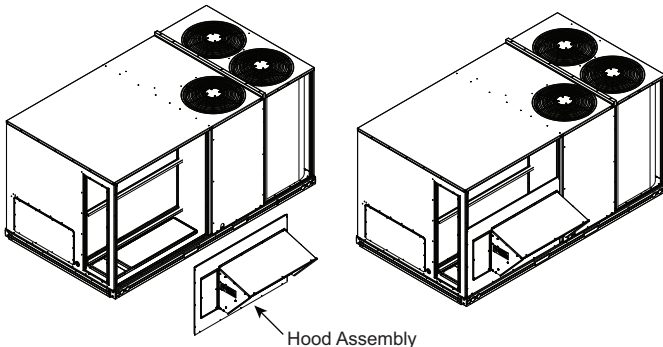

Fig. 9 — Install O/A Damper with Hood Assembly
18. Slide the EconomizerONE O/A assembly all the way back and into the R/A (Return Air) section. (See Fig. 9.)